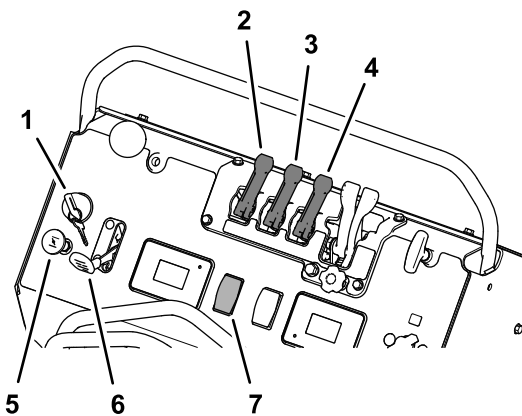

Figure 63
3. Engage the parking brake, move the steering-control/motion-control lever to the NEUTRAL position, and start the engine (Figure 63); refer to Starting the Engine \(page 23\).
4. Tap the sprayer-pump switch to the ON position, and set the engine throttle to FAST position (Figure 63).
5. Pull the tank-agitation lever to the ON position (Figure 63).
1. Pull back both narrow and wide-spray pattern levers to the ON position (Figure 63).
6. Move the spray-pattern levers forward to the OFF position, set the sprayer-pump switch to the OFF position, and shut off the engine (Figure 63).